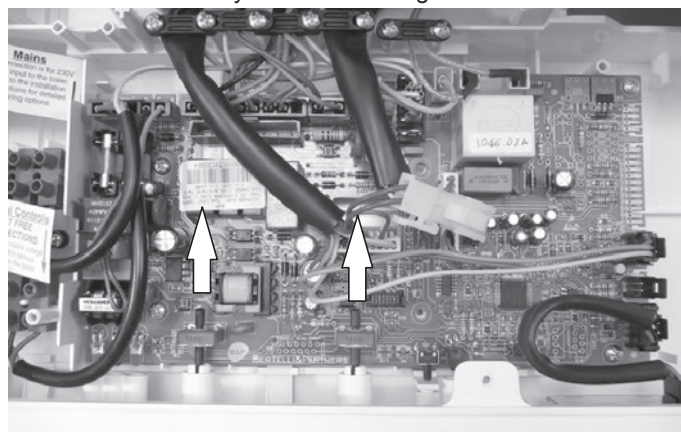

Figure 10.23
- 3 Remove the spindles of the C.H. and D.H.W. temperature adjustment knobs by delicately pulling them with pliers in the direction shown by the arrows in Figure 10.23.